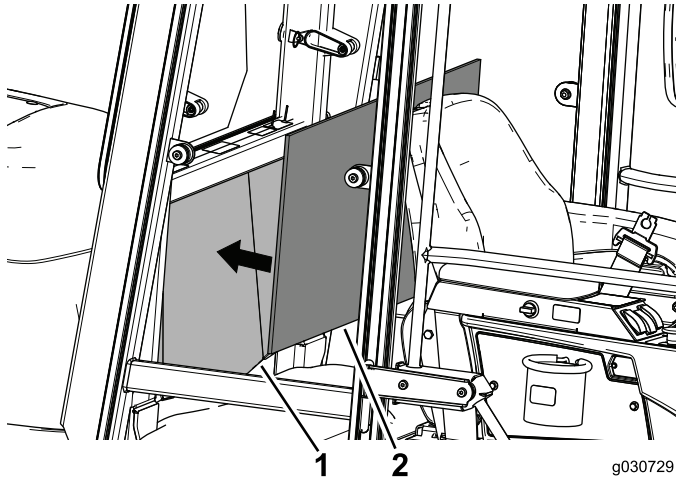

Figure 29
2. Align the upholstery panel with the center of the back panel inside cab to verify its fit and placement (Figure 29).